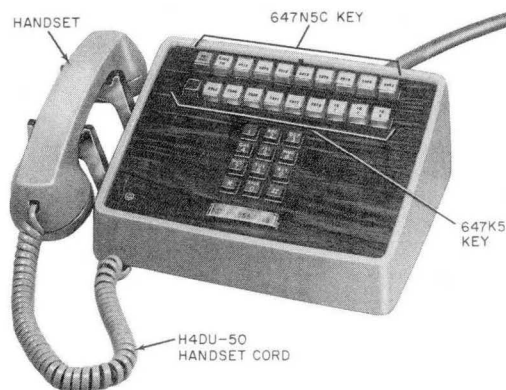

Fig. 1—2833CM Telephone Set
**2.01** The 833BM, 2833BM, 833CM, and 2833CM (Fig. 1) are modular type telephone sets and will replace the 833B, 2833B, 833C, and 2833C telephone sets, respectively, which are hereby rated MD. The 833DM, 2833DM, 833EM, and 2833EM are also modular sets and are electrically and functionally equivalent to the 833BM, 2833BM, 833CM, and 2833CM sets, respectively, except that